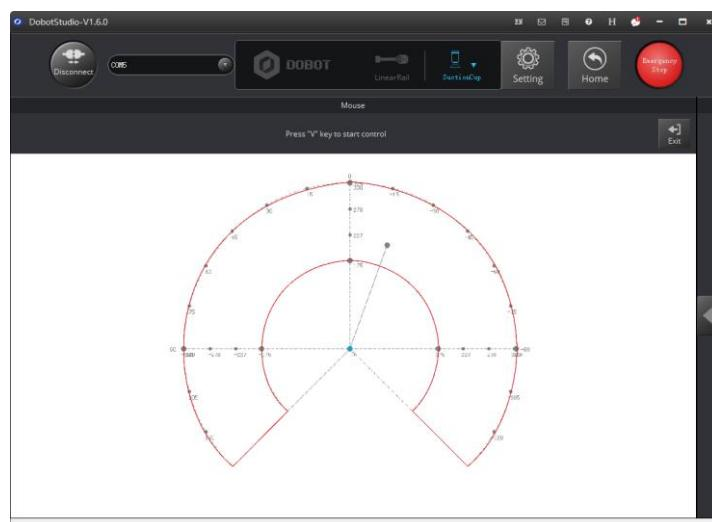

Figure 5.115 Move the robotic arm in the red annular area
Step 5 Press V to enable the mouse control of the Dobot Magician. Press and hold the left mouse button to drag the mouse within the red annular area to move the robotic arm, as shown in Figure 5.115.